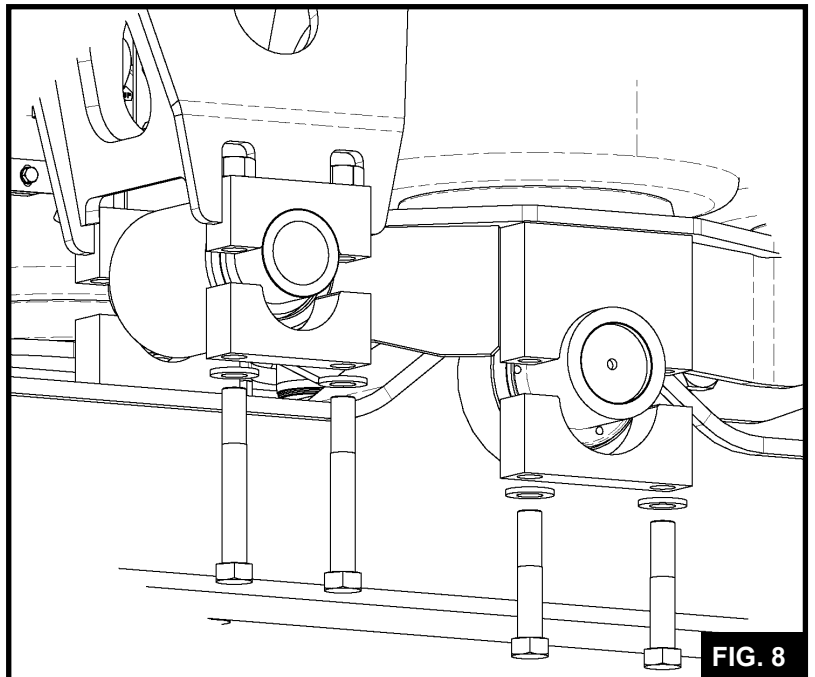

FIG. 8
7.1 Remove the bolts that fasten the clamp blocks around the hanger bushing (See FIG. 8).
7.2 Remove the bolts that fasten the clamp blocks around the walking beam center bushing (See FIG. 8).